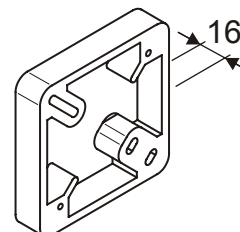
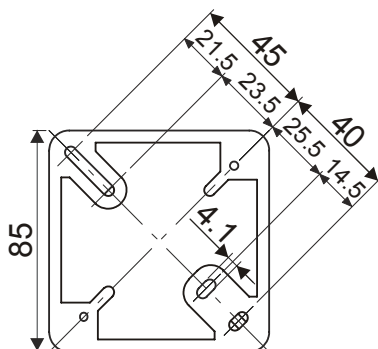

Fig. 4
Fig. 5
1. Mount the adapter frame AI330 on a wall or recess-mounted socket using two screws with max. diameter of 4 mm (Fig. 4, Fig. 5).